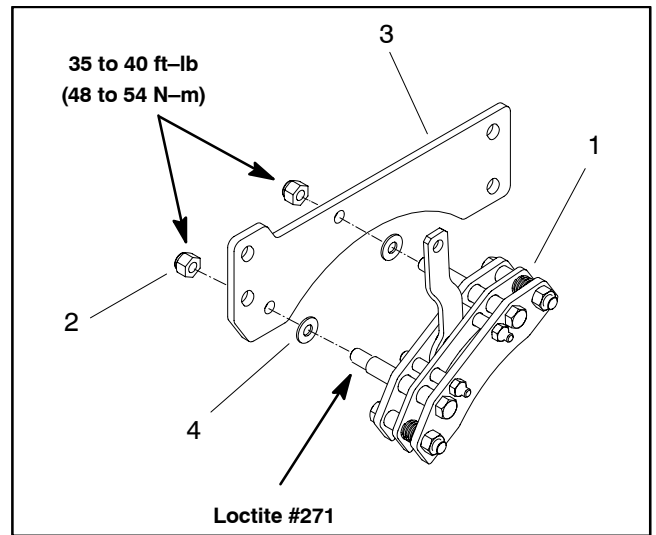
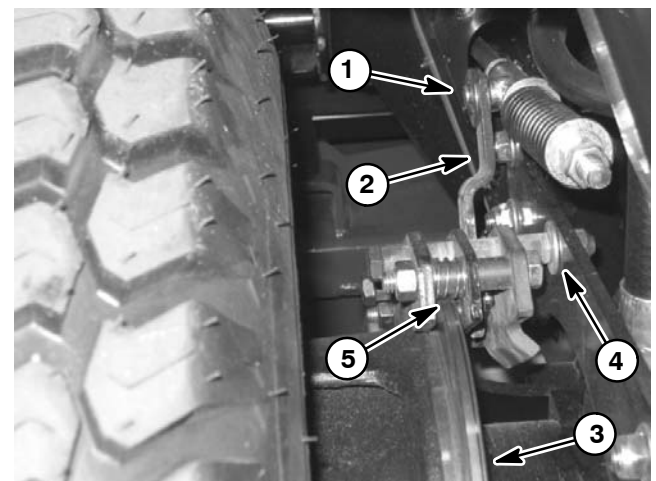

Figure 5
Figure 7
5. Remove four (4) cap screws and flange nuts that secure brake support to frame.
7. Remove two (2) lock nuts that secure parking brake assembly to brake support. Remove brake from support. Locate and retrieve two (2) hardened washers from between parking brake and brake support (Figs. 5 and 6).
2. Place two (2) hardened washers on brake mounting screws (Figs. 5 and 6).
3. Apply Loctite #271 (or equivalent) to threads of brake mounting screws. Secure parking brake to brake support with two (2) lock nuts. Torque lock nuts from **35 to 40 ft-lb (48 to 54 N-m)**.
4. Place brake support (with parking brake assembly attached) to wheel hub disc and frame making sure that disc is between the two (2) stators (brake pads) in the brake assembly.
5. Place four (4) cap screws and flange nuts in mounting holes of brake support and frame but do not fully tighten.
6. Adjust position of brake support so that the clearance between the wheel hub disc and both springs in the parking brake (Fig. 7) is from **0.030" to 0.070" (0.8 to 1.7 mm)**. When clearance is correct, fully tighten fasteners.
8. Secure wheel to machine with five (5) lug nuts.
10. If wheel hub was removed, apply parking brake and torque lock nut (item 6) from **300 to 400 ft-lb (407 to 542 N-m)**. Release parking brake.